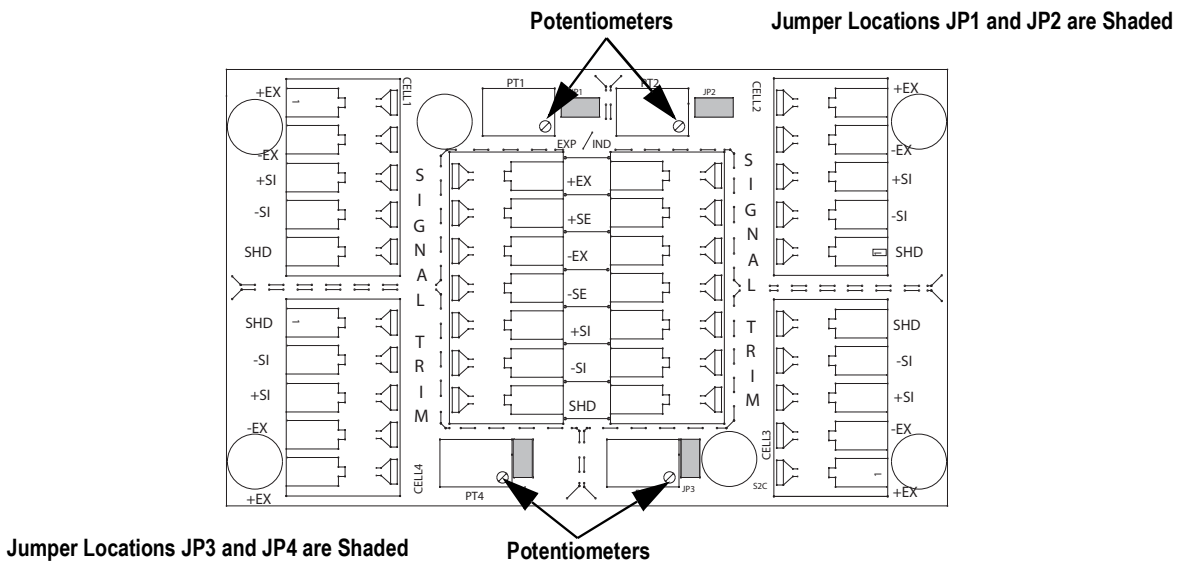

Figure 3-1. Trim Potentiometers
5. Turn all four potentiometers fully clockwise (shaded areas of Figure 3-1) to increase the reading until a clicking sound is heard from each potentiometer. This ensures the maximum signal from each load cell.